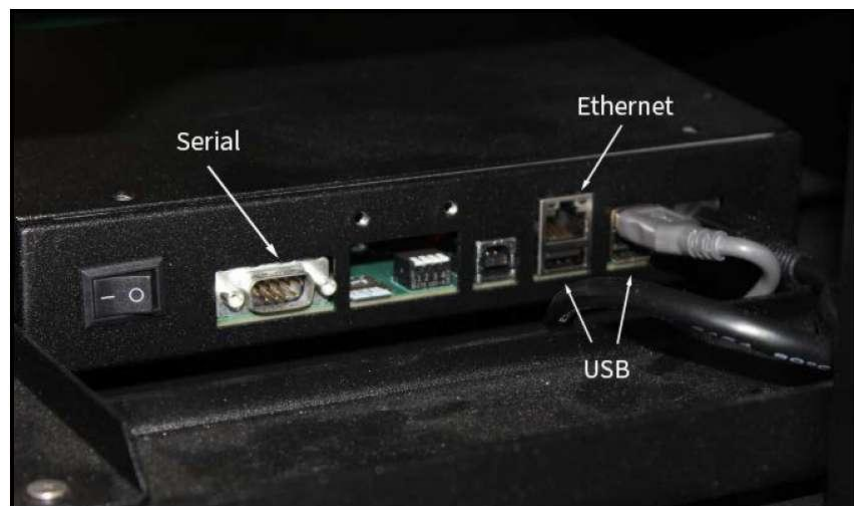

Figure 13 - Ethernet, serial, and USB connectors
1. Connect the USB cable to the Cubiscan 325v3's USB port located on the controller box, as shown in Figure 13.
2. Connect the serial cable to the Cubiscan 325v3's serial port, as shown in Figure 13.